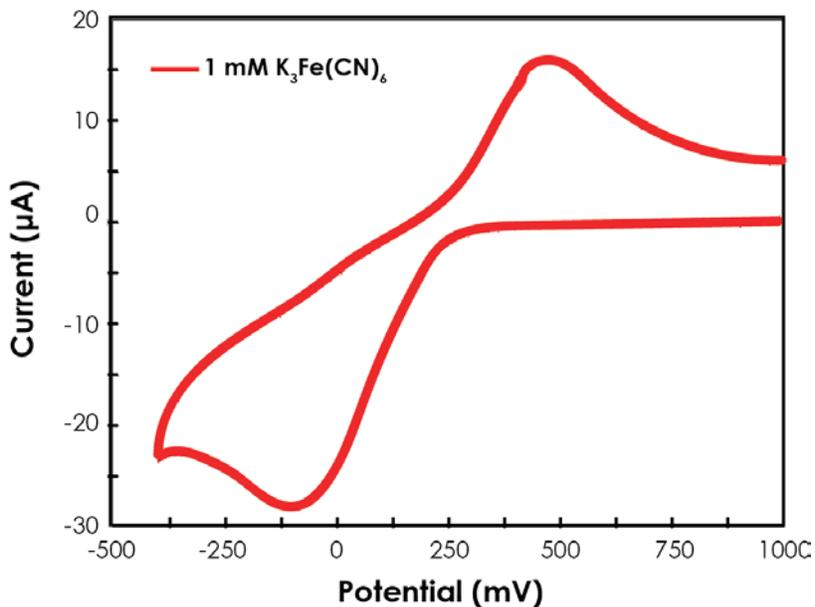

Figure 8: Cyclic Voltammogram (CV) obtained in AfterMath of a Potassium Ferricyanide Solution
- b) The results should be comparable to those shown in Figure 8.